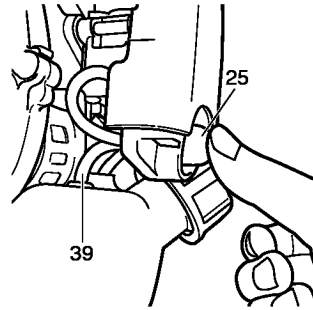

Fig. 23
\* Push priming bulb (25) several times so that fuel flows through return pipe (39). (Fig. 23)